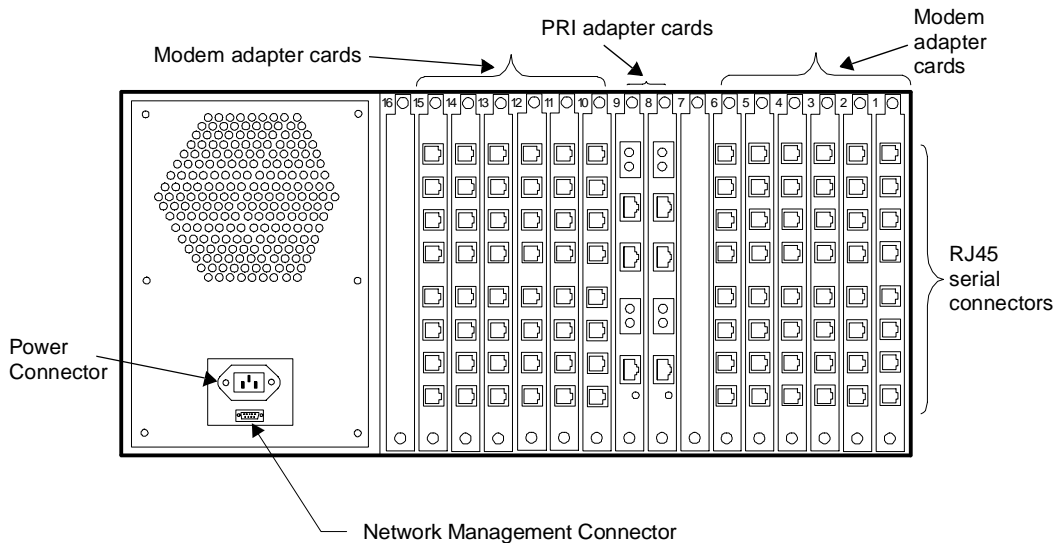

Figure 1-4. The 4000 Chassis Rear Panel
As shown in Figure 1-4, the rear of the 4000 chassis contains the following components:
- Modem adapter cards (digital adapter cards have RJ45 serial connectors as shown in Figure 1-4; analog adapter cards have RJ11 phone connectors and RJ45 serial connectors)